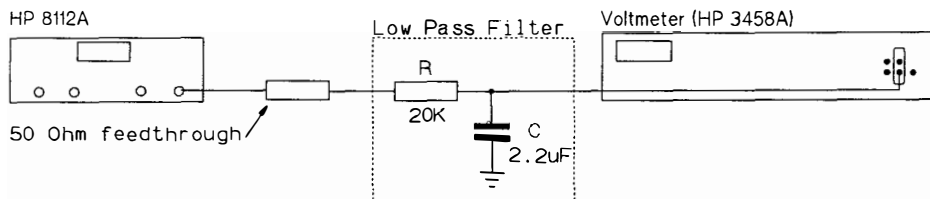

Figure 9-6. Low Pass Filter
- Low pass filter (Refer to Figure 9-6)
13. Set the DVM to read DC voltages. If the DVM does not have a built-in filter, use an external low pass filter, as shown in Figure 9-6.
19. Use the DVM built-in filter and set the DVM to read DC voltages. If the DVM does not have a built-in filter, use an external low pass filter, as shown in Figure 9-6.
27. Use the DVM built-in filter and set the DVM to read DC voltages. If the DVM does not have a built-in filter, use an external low pass filter, as shown in Figure 9-6.
35. Connect the HP 8112A main output via an exact $50\ \Omega$ 0.1% feedthrough terminator to the DVM, and enable the DVM built-in filter. If the DVM does not have a built in filter, use a low-pass filter as shown in Figure 9-6.